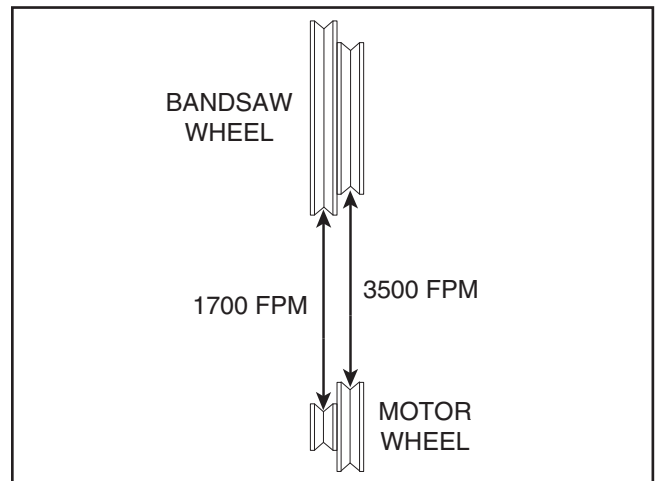

Figure 48. V-belt speeds.
3. Refer to **Figure 48** to locate the correct V-belt position for the desired blade speed.